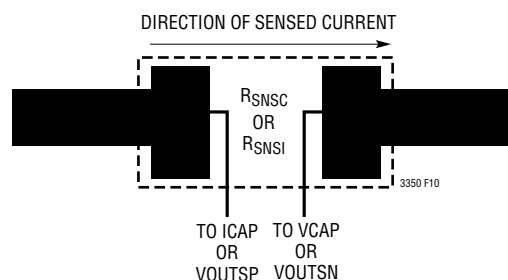

Figure 10. Kelvin Current Sensing
5. Route ICAP and VCAP sense lines together, keep them short. Same with VOUTSP and VOUTSN. Filter components should be placed near the part and not near the sense resistors. Ensure accurate current sensing with Kelvin connections at the sense resistors. See Figure 10.